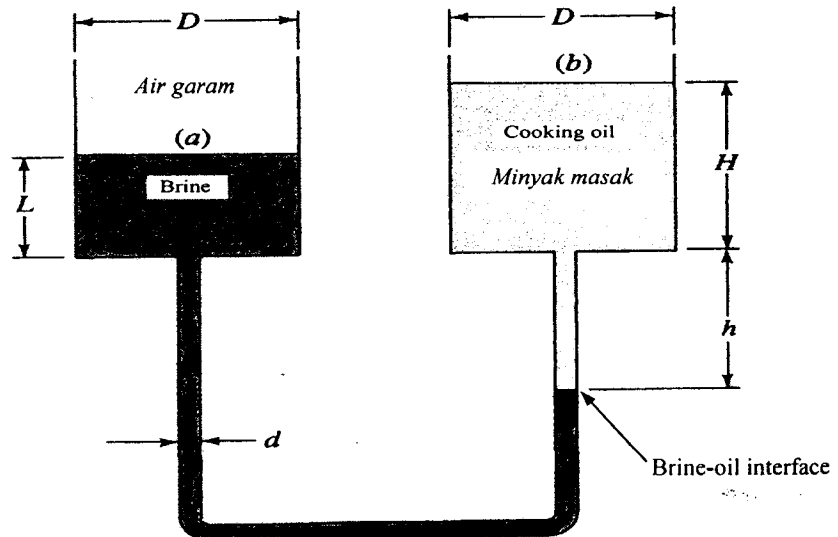

Figure Q.1. [a]
1. [a] The dimension of the manometer can sometimes give a significant effect to the pressure measurement. In Figure Q.1. [a] below, containers (a) and (b) are cylindrical in shape and conditions are such that $p_a = p_b$. Derive a formula for the pressure difference $p_a - p_b$ when the brine-oil interface on the right rises a distance $\Delta h < h$, for $d \ll D$. Let the densities of brine and cooking oil be $\rho_{brine} \text{ kg/m}^3$ and $\rho_{oil} \text{ kg/m}^3$ respectively.